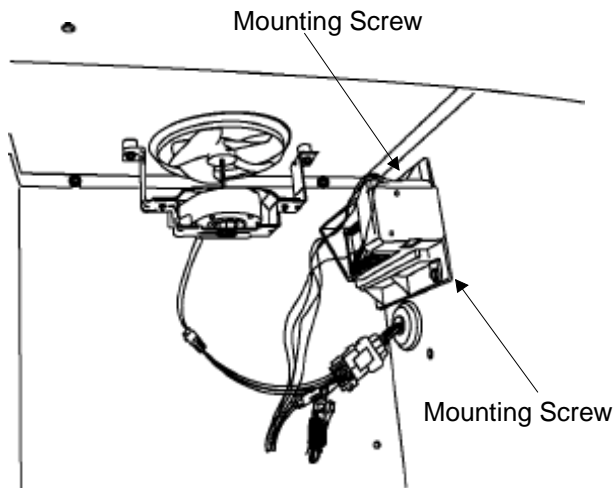

Figure 2
11. Remove the auto damper stepper motor bracket mounting screws. (See figure 2).